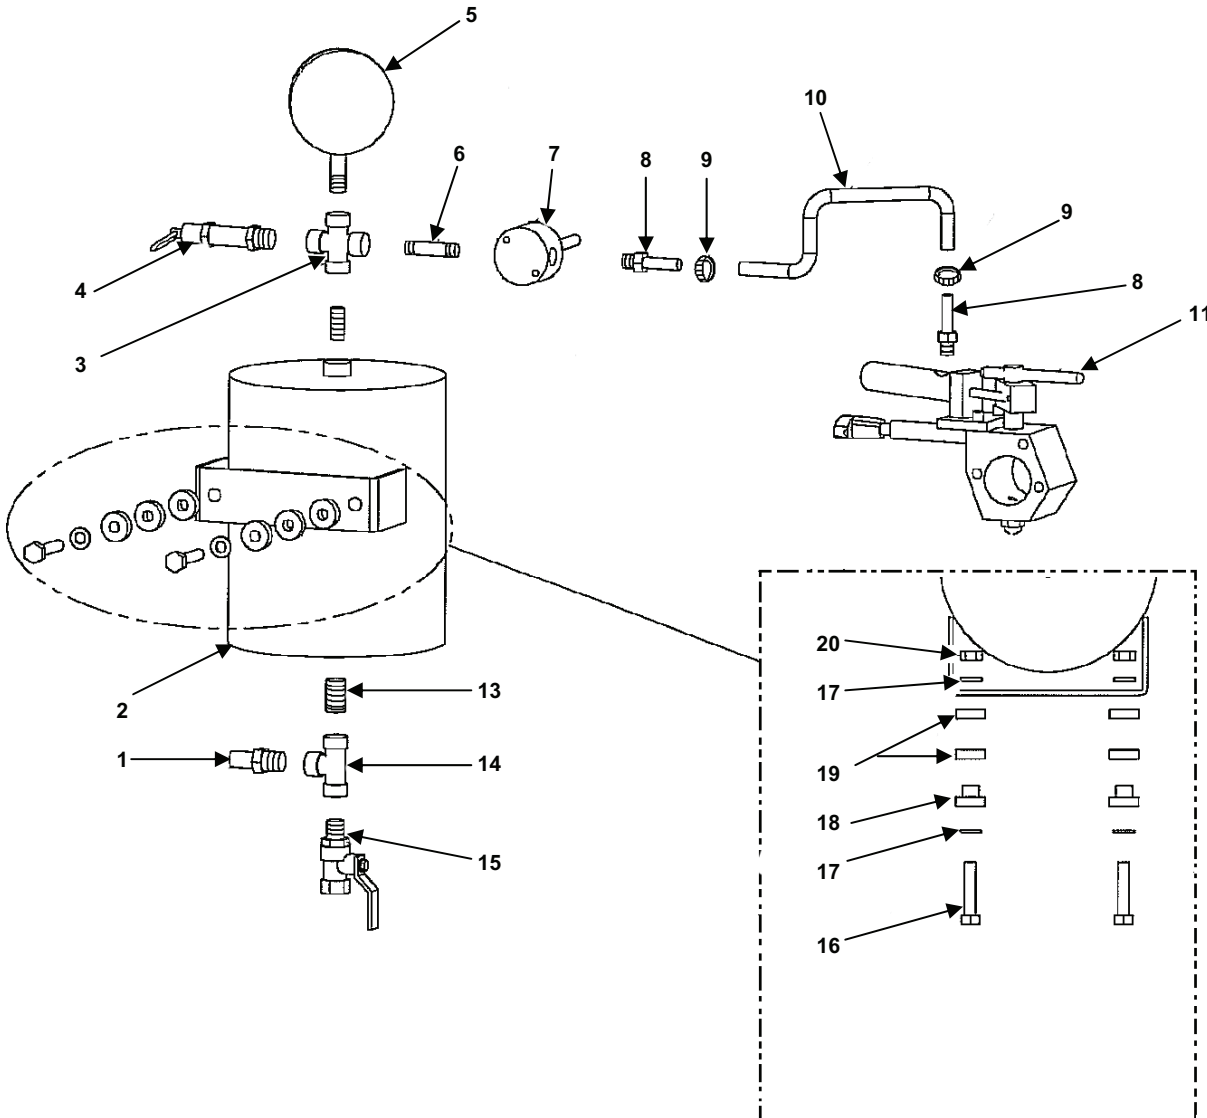

Figure 4. Air Tank Assembly Removal
1. Disconnect the air hose (Figure 4, item 10) from hose adapters (Figure 4, item 8) by loosening clamps (Figure 4, item 9).
2. Unthread the solenoid valve (Figure 4, item 7) from the threaded nipple (Figure 4, item 6) to remove.
3. Remove the threaded nipples (Figure 4, item 6) from solenoid valve (Figure 4, item 7) and shutoff valve (Figure 4, item 11), if necessary.
4. Remove the threaded nipple (Figure 4, item 6), gauge (Figure 4, item 5), safety pop valve (Figure 4, item 4), cross (Figure 4, item 3), and nipple (Figure 4, item 12), if necessary, by unthreading them counter-clockwise.
1. Unthread the Schrader valve (Figure 4, item 1), drain valve (Figure 4, item 15), tee (Figure 4, item 14) and nipple (Figure 4, item 13), if necessary, by unthreading them counter clockwise.
2. Remove the air tank from the module by removing bolts (Figure 4, item 16), washers (Figure 4, item 17), bushing (Figure 4, item 18), rubber rings (Figure 4, item 19) and nuts (Figure 4, item 20).
1. Refer to Figure 4 for this procedure section.
2. Install the air tank to the module by using bolts (Figure 4, item 16), washers (Figure 4, item 17), bushing (Figure 4, item 18), rubber rings (Figure 4, item 19) and nuts (Figure 4, item 20).
3. Install the Schrader valve (Figure 4, item 1), drain valve (Figure 4, item 15), tee (Figure 4, item 14) and nipple (Figure 4, item 13), if necessary, by threading them clockwise.
4. Install the threaded nipple (Figure 4, item 6), gauge (Figure 4, item 5), safety pop valve (Figure 4, item 4), cross (Figure 4, item 3), and nipple (Figure 4, item 12), if necessary, by threading them clockwise.
5. Install the threaded nipples (Figure 4, item 6) to solenoid valve (Figure 4, item 7) and shutoff valve (Figure 4, item 11), if necessary.
6. Install the solenoid valve (Figure 4, item 7) to the threaded nipple (Figure 4, item 6).